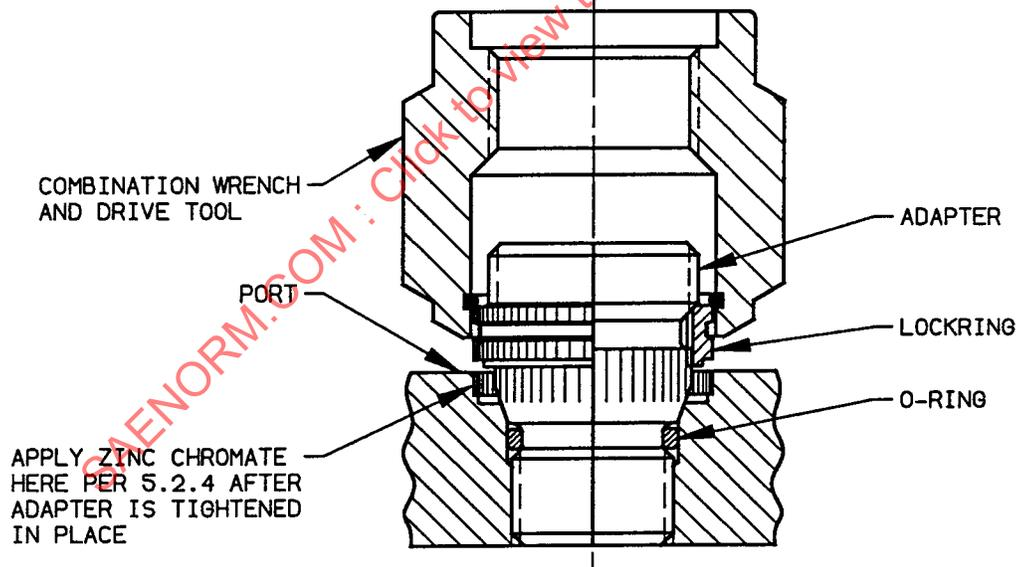

FIGURE 3 - Torquing Adapter Assembly
- 5.2.3 Using the applicable combination wrench and drive tool in Table 2, engage the serrations of the tool with the external serrations of the lockring per Figure 3. Place a torque wrench of the proper size over the hex of the wrench and apply a torque equal to the minimum value specified in Table 2. Note the relationship of the lockring serrations with respect to the prebroached serrations in the port. If they match, proceed to 5.2.4. If the lockring serrations do not match the prebroached serrations in the port, continue to slowly torque the adapter toward the maximum value allowed in Table 2 until the serrations match. This will normally take between 3 and 8° of turning, the maximum value need not be reached if the serrations align themselves prior to that value. Do not exceed maximum torque values.